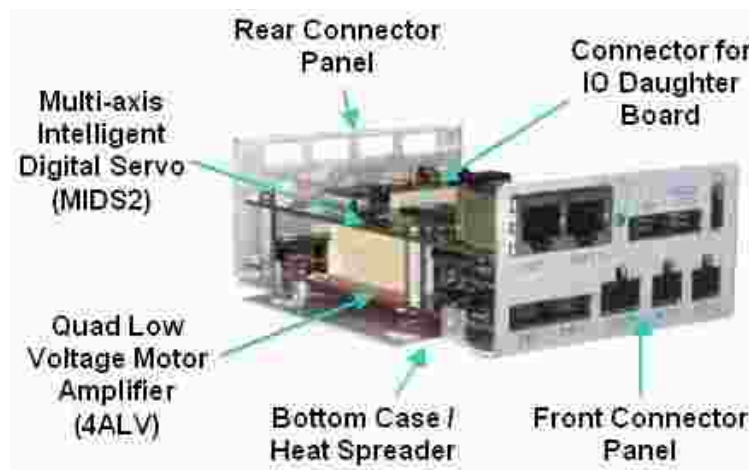

Figure 4-1: Guidance 1000 Controller
The Guidance 1000 Controllers are normally provided in an enclosure that contains two (2) printed circuit board assemblies and an optional third board. These components are shown in Figure 4-1 where the top cover has been removed for clarity.